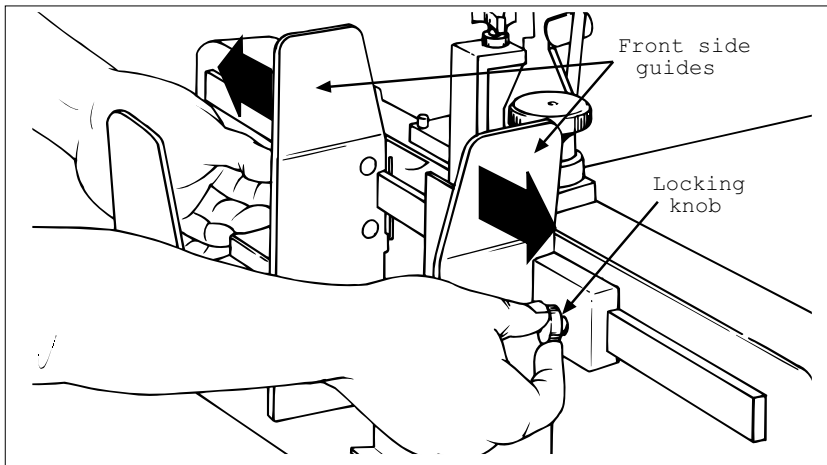

Figure 2-1. Front Side Guides Being Repositioned
1. Loosen locking knobs at both side guides (Figure 2-1).